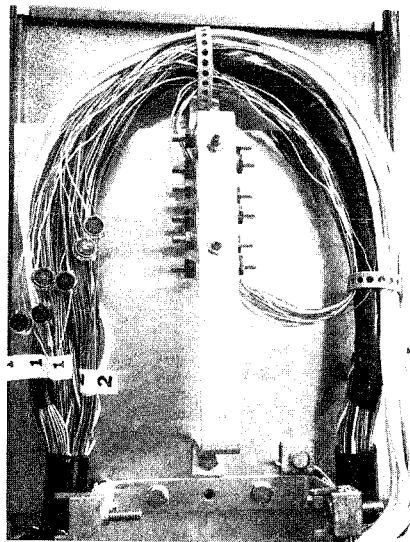

Fig. 12—Staggering the UG Connectors
(5) Stagger the positions of the UG connectors. Fig. 12 shows the terminal block wire leads from binding posts positions, staggered and bridged to the cable conductors.